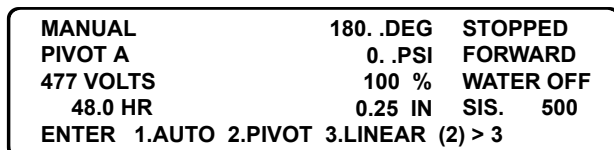

Figure 72-4
16. Press  and **3** to return the machine to the linear mode. See Figure 72-4.